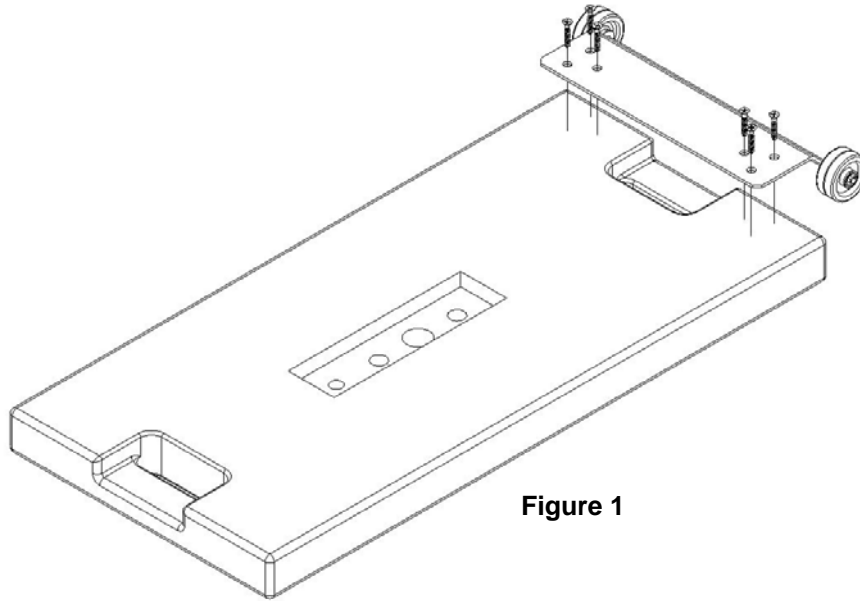

Figure 1
3. Install the six (6) $1 \frac{1}{4}$ " long screws by pushing firmly while turning the screws. Tighten screws until snug, but do not over-tighten (Figure 1).